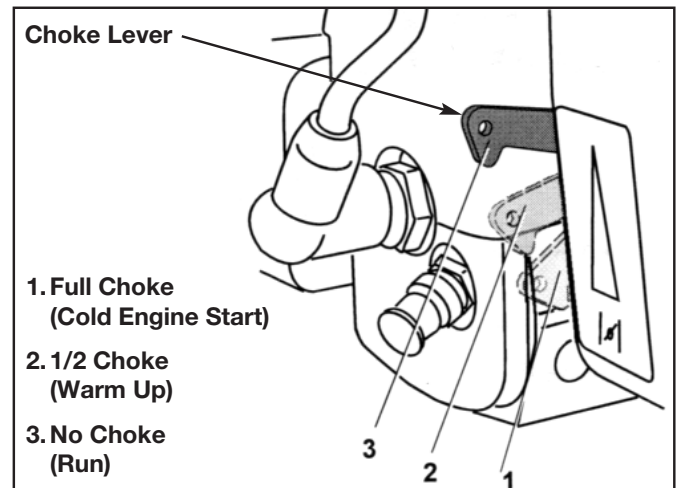

Figure 3
- Move choke lever (see figure 3) to "FULL CHOKE" (see equipment manufacturer's instructions).